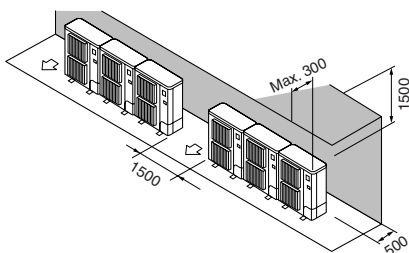

Fig. 3-12
- ② Obstacles at rear and above only (Fig. 3-12)